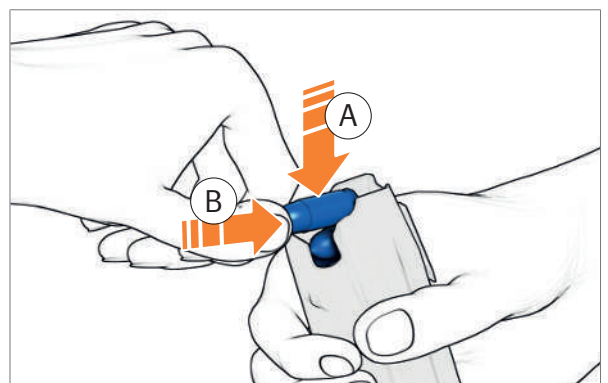

Fig. 48: Fill the magazine
2. Push cartridge under the magazine lips (Fig. 48).
3. Push cartridge to the rear as far as it will go (Fig. 48).